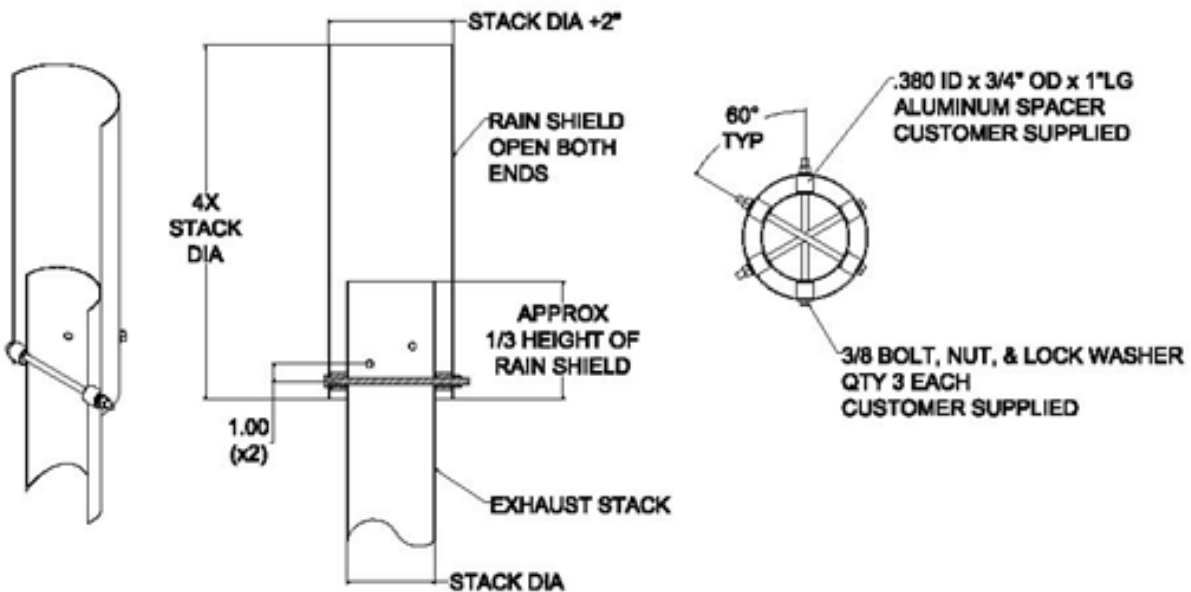

Figure II.2
- The stack outlet shall not be restricted in any way. Either use a zero restriction rain shield (as described in figure II.2 below) or don't use any cap at all.